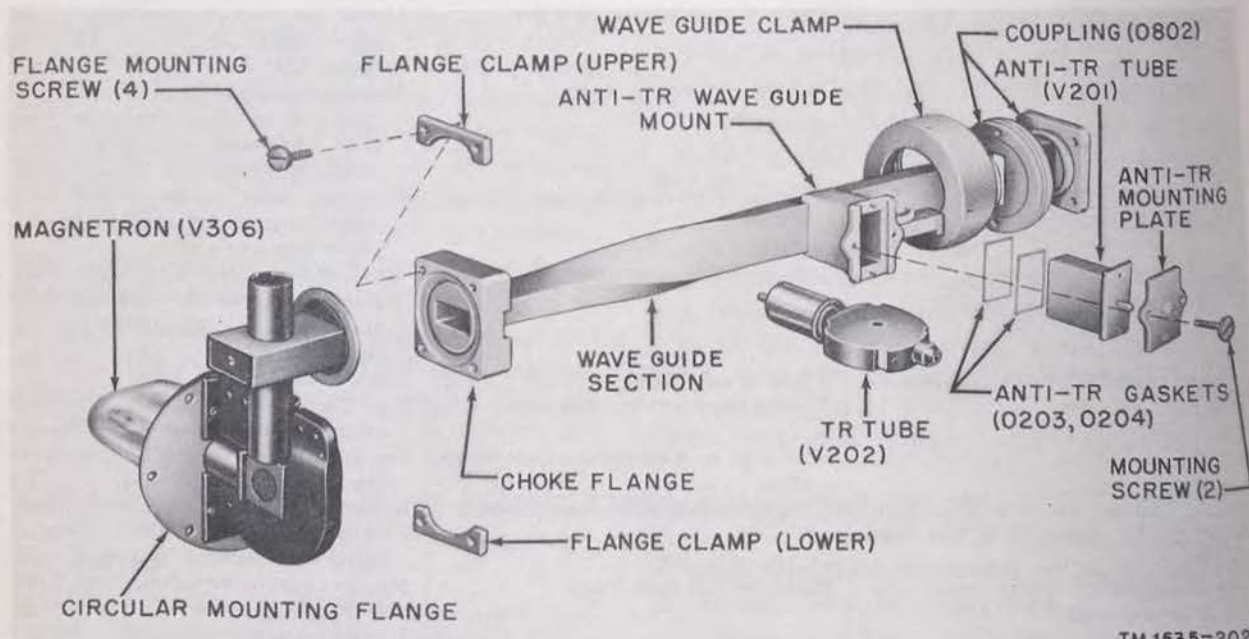

Figure 127. Duplexer, exploded view.
(fig. 127)
- c. Remove the four flange mounting screws (fig. 127) and the upper and lower flange clamps.